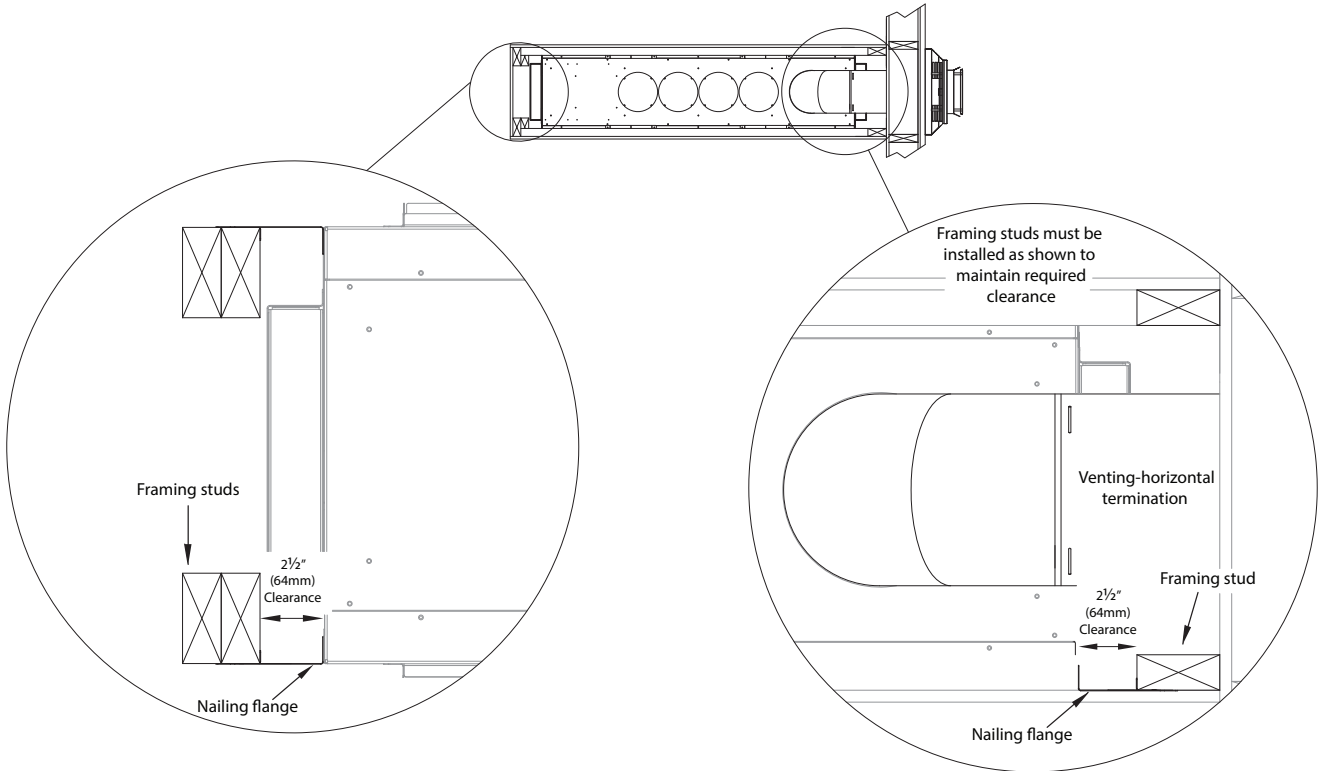

FIGURE 3.4 Nailing Flange - Horizontal Termination Framing
1. Remove (4) nailing flanges from the right and left side of the fireplace.
5. **UNTIL ALL FRAMING REQUIREMENTS ARE COMPLETED:** Position framing stud against the small stand-off (located on backside of nailing flange). Secure with nails or screws. For securing nailing flanges for horizontal terminations at the vent pass-through, refer to **FIGURE 3.4** on page 14.